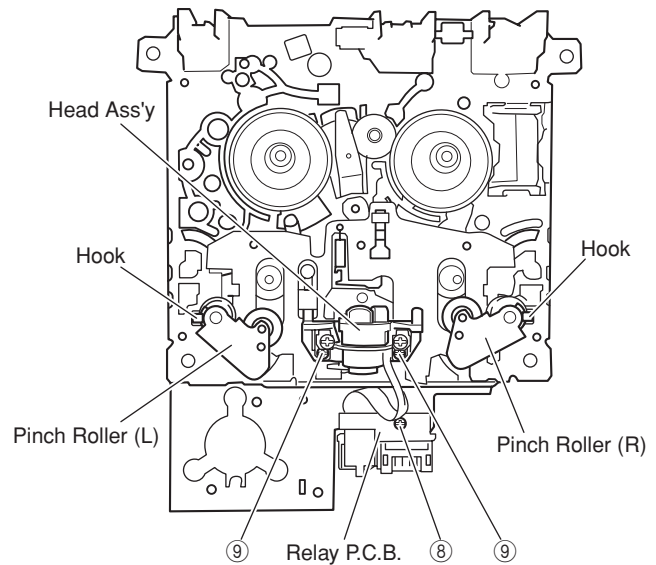

Fig. 4
Detach the hook and then remove the Pinch Roller in Fig. 4.
- a. Remove 1 screw (⑧) and then remove the Relay P.C.B. in Fig. 4.
- b. Remove 2 screws (⑨) and then remove the Head Ass'y in Fig. 4.